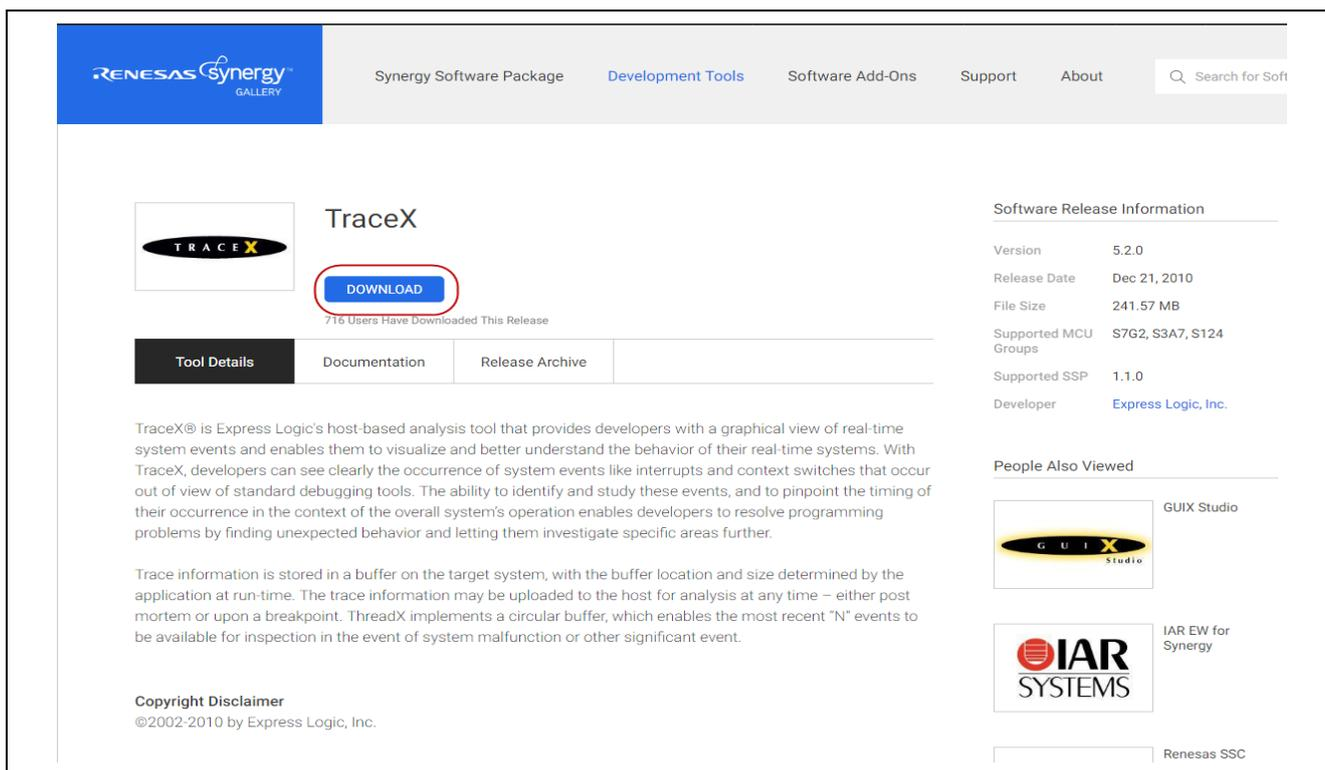

Figure 7 Downloading TraceX
2. On the TraceX download page, click **DOWNLOAD** (Figure 7) to download and install TraceX on the PC.